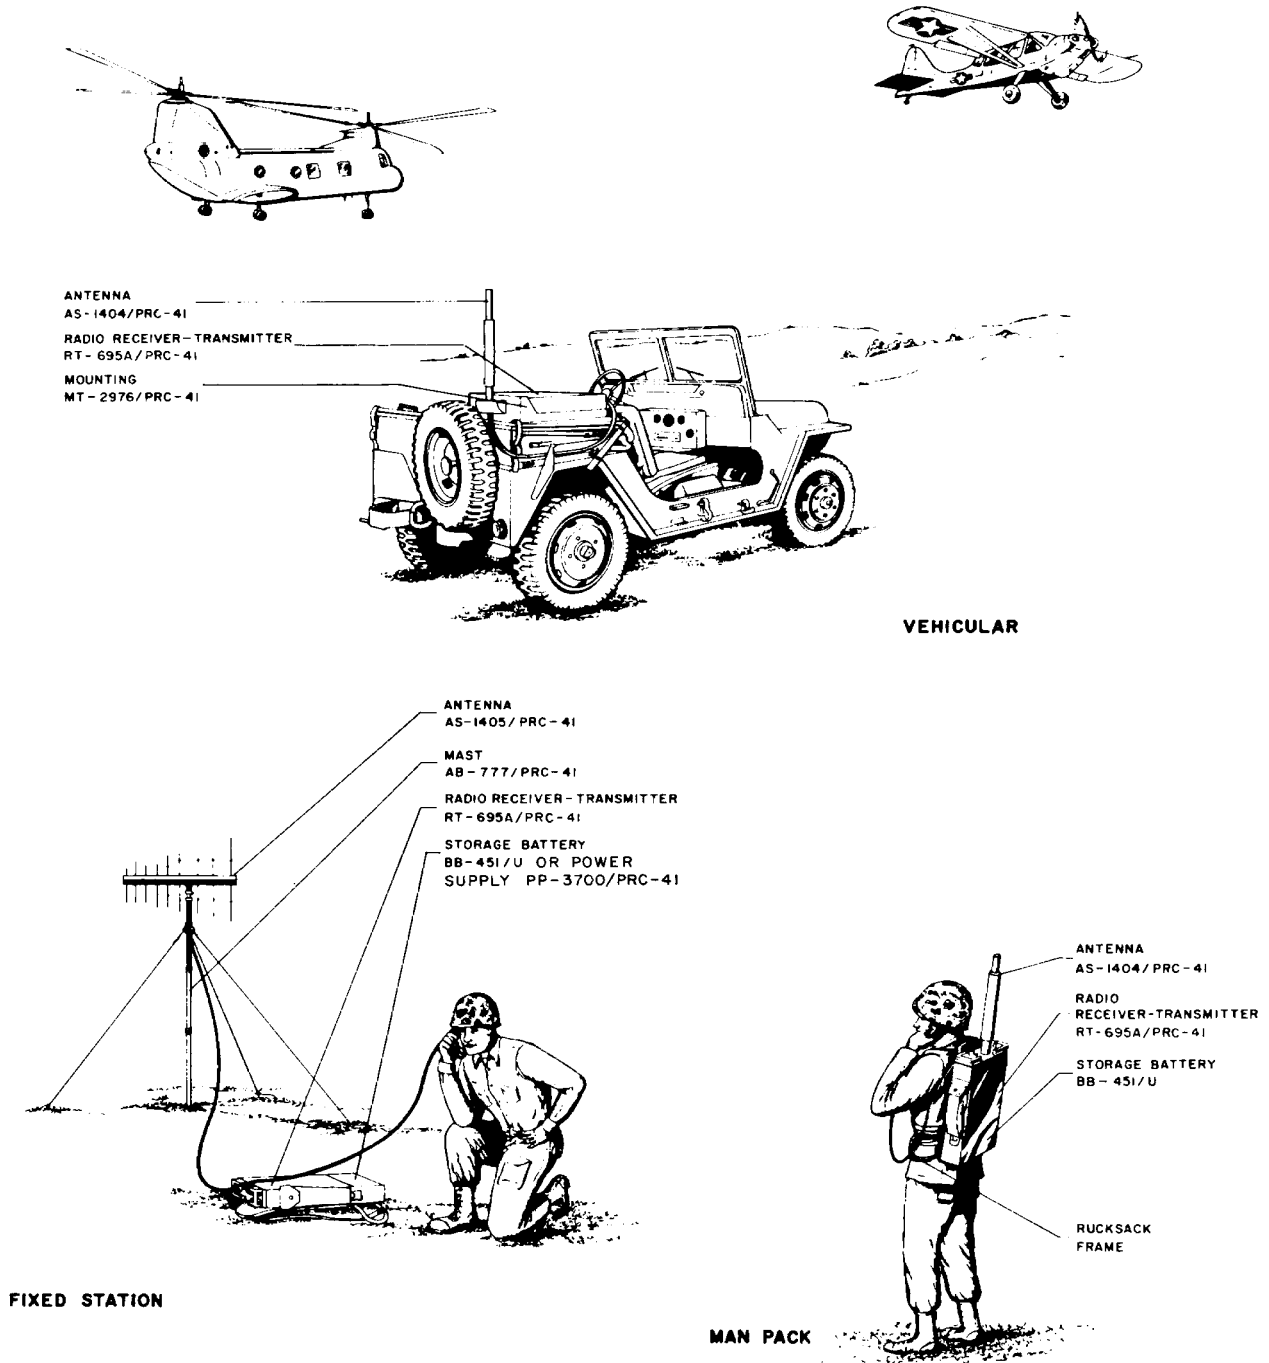
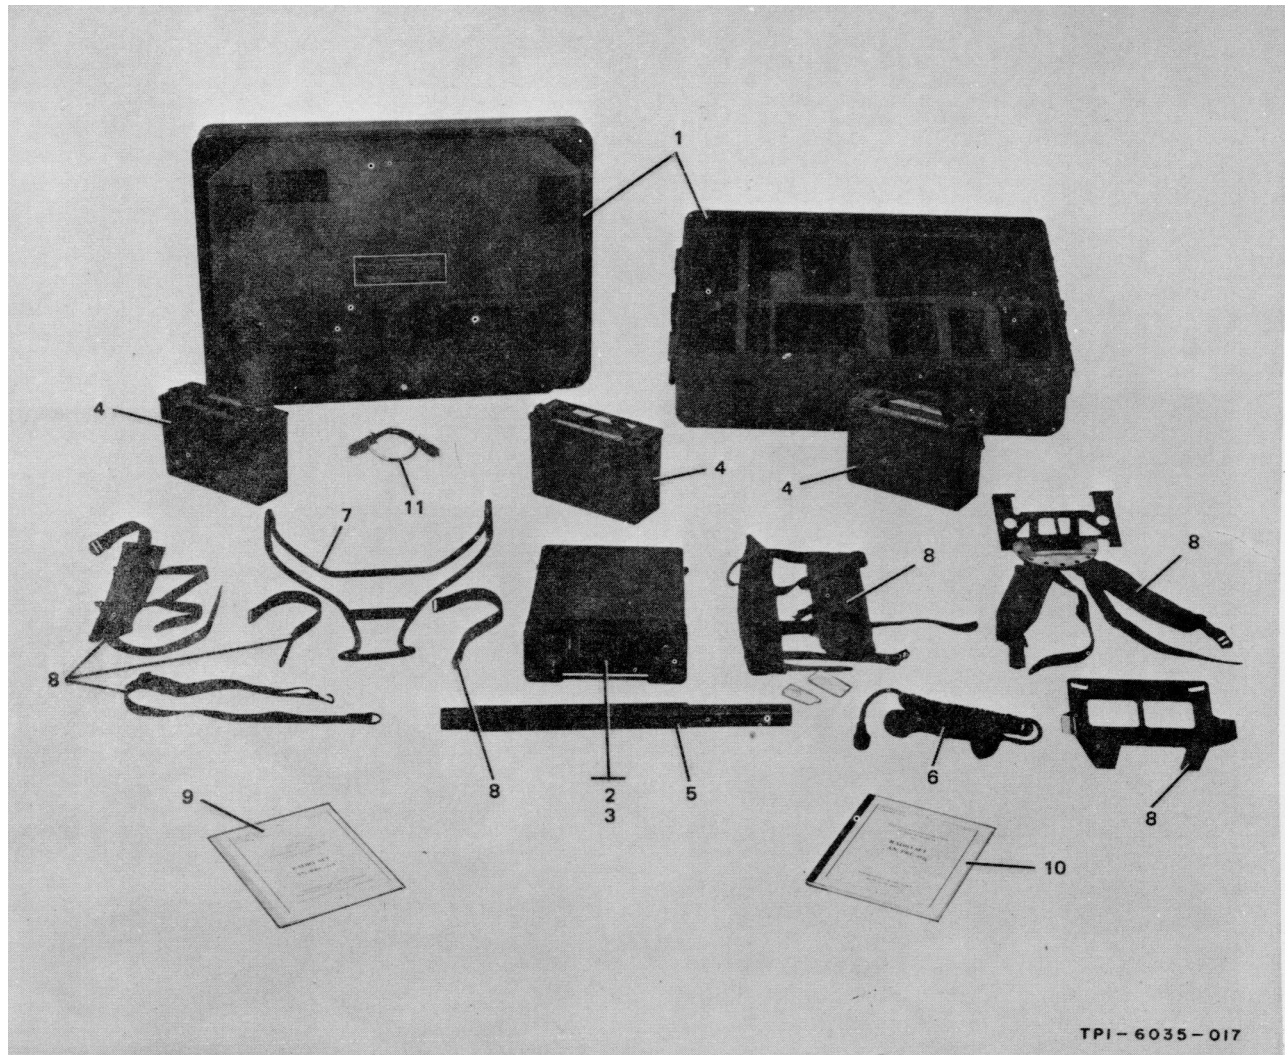
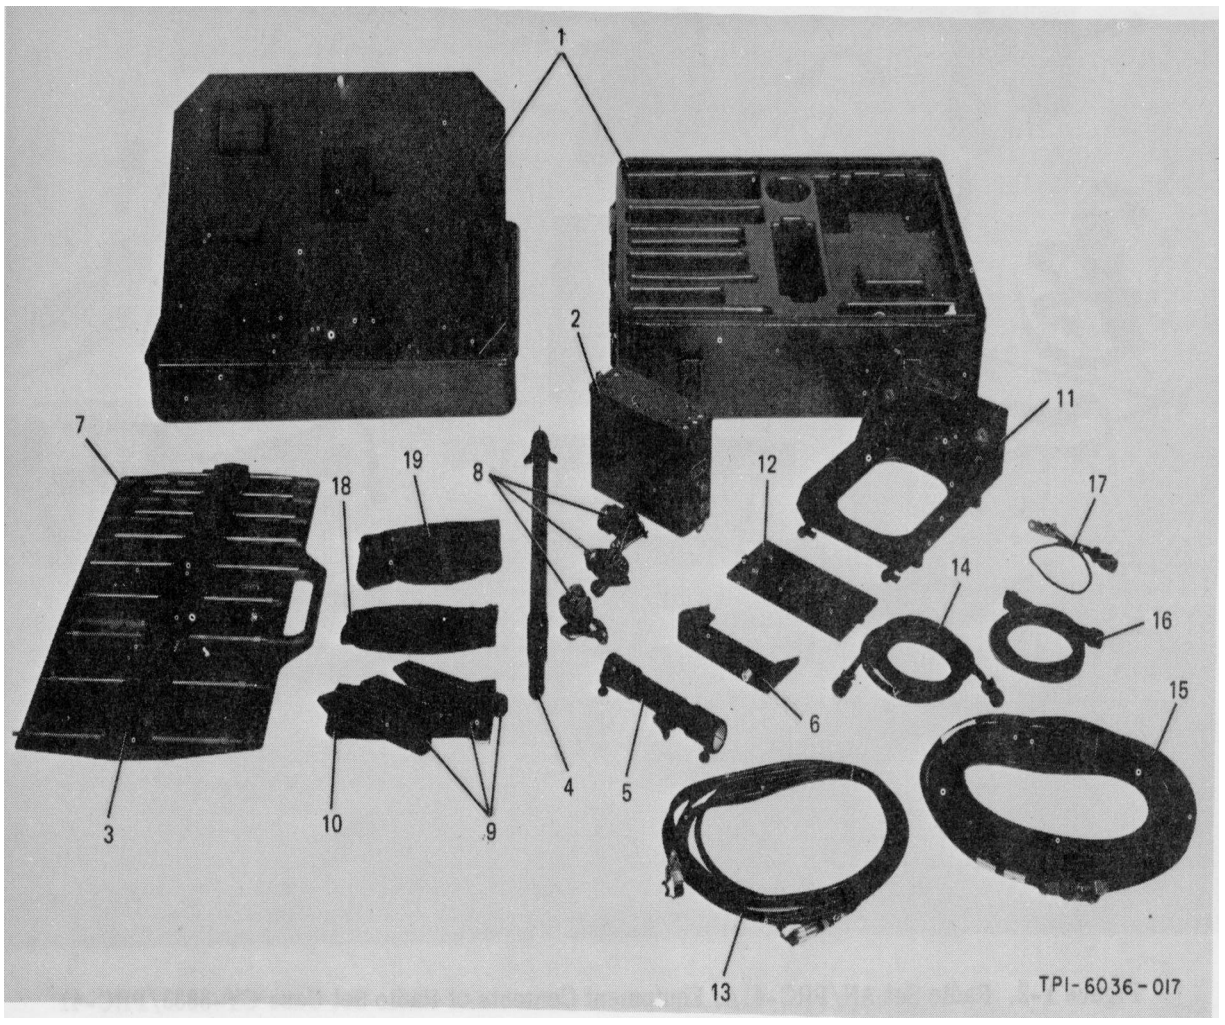

Figure 1-1. Radio Set AN/PRC-41A, Operating Configuration
Figure 1-2. Radio Set AN/PRC-41A, Equipment Contents of Radio Set Case CY-3883/PRC-41
Figure 1-3. Radio Set Accessory Kit MK-706/PRC-41, Accessory Contents of Electronic Equipment Case CY-3885/PRC-41
Radio Set AN/PRC-41A consists of the equipment contained in Radio Set Case CY-3883/PRC-41. Refer to table 1-1 and figure 1-2. Radio Set Accessory Kit MK-706/PRC-41 consists of the equipment contained in Electronic Equipment Case CY-3885/PRC-41. Refer to table 1-2 and figures 1-1 and 1-3.
Radio Set AN/PRC-41A is a lightweight, portable uhf receiver-transmitter equipment. The versatility of this equipment permits man-pack, fixed station, or vehicular operation. See figure 1-1. The items and accessories of AN/PRC-41A and Accessory Kit MK-706/PRC-41A are listed in tables 1-1 and 1-2. This equipment is stored for transit in Radio Set Case CY-3883/PRC-41 and Electronic Equipment Case CY-3885/PRC-41. See figures 1-2 and 1-3. CY-3883/PRC-41 contains the items necessary for man-pack operation. CY-3885/PRC-41 contains the accessory items required for fixed station or vehicular operation, and maintenance items such as tools and extension cables. Radio Receiver-Transmitter RT-695A/PRC-41 of AN/PRC-41A may be operated on any one of 1750 channels, spaced 100kHz in the 225.0-to 399.9-MHz range. In transmit operation, the equipment uses type a3 (AM voice) emission and provides an average of at least 3 watts of power across the frequency range. All controls are an integral part of the front panel of RT-695A/PRC-41. These controls provide frequency selection, application of power, and adjustment of volume and squelch levels. Automatic relay operation in normal voice mode may be provided when two RT-695A/PRC-41 equipments are operated together. Cabling is provided for all modes of operational installations. RT-695A/PRC-41 has the capability of secure voice operation when used in conjunction with TSEC/KY-38 equipment. Primary power may be provided by either Storage Battery BB-451/U, Power Supply PP -3700/PRC -41, or vehicular battery supply. The equipment may use Antenna AS-1405/PRC-41 (directional) or Antenna AS-1404/ PRC-41 (omnidirectional).
a. GENERAL. - Radio Set AN/PRC-41A consists of Radio Set Case CY-3883/PRC-41 and its contents. Refer to figure 1-2. Radio Set Accessory Kit MK-706/PRC -41 consists of Electronic Equipment Case CY-3885/PRC-41 and its contents. Refer to figure 1-3. The following paragraphs provide physical, electrical, and functional descriptions of the case and contents of Radio Set Case CY-3885/PRC-41 and Electronic Equipment Case CY-3885/PRC-41.
(1) RADIO SET CASE CY-3883/PRC-41. Radio Set Case CY-3883/PRC-41 is an aluminum transit case with a foam rubber compartmentalized insert used for storage of the items of AN/PRC-41A
that are required for man-pack operation. It measures 15-1/2 by 35 by 26-1/2 inches and weighs 45 pounds. Refer to figure 1-2.
(8) SPECIAL PURPOSE ELECTRICAL CABLE ASSEMBLY CX-10831/PRC-41A. (Refer to figure 1-3.) - The CX-10831/PRC-41A is a 2-footlength of 7-conductor cable with suitable mating connectors. It is used to connect RT-695A/PRC-41 to the TSEC/ KY-38 security equipment.
Case CY-3885/PRC-41 is a compartmentalized aluminum transit case used for storage of accessories of Radio Set AN/PRC-41A. The contents of CY-3885/PRC-41 permit operation of the AN/PRC-41A equipment in a fixed station or vehicular configuration, and provide extension cables and tools required for equipment maintenance. The case measures 15-1/2 by 35 by 26 1/2 inches and weighs 45 pounds. Refer to figure 1-3.